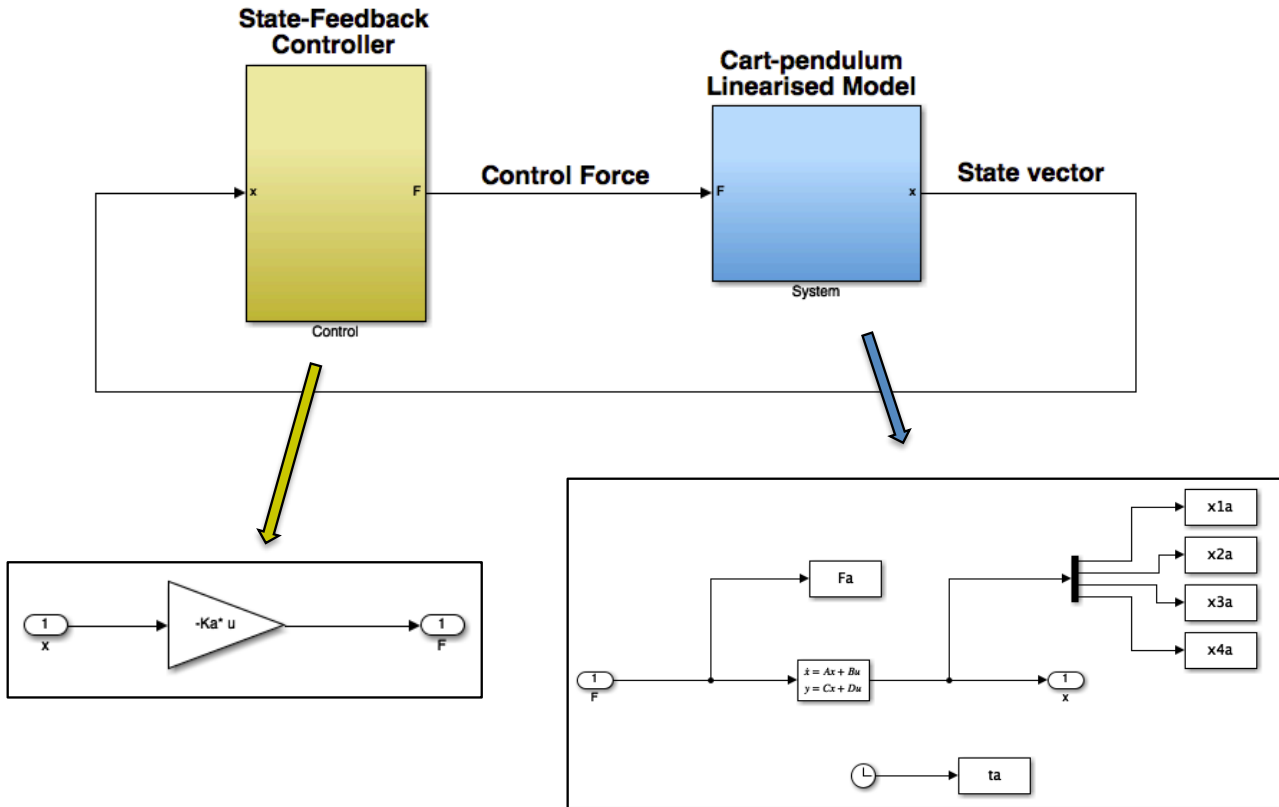

Figure 2: Linearised control system.
- Create a Simulink model of the linearised system in closed loop with the state-feedback controller. Save your model as `CP_SFC_Lin_a_yourstudentnumber.slx`. An example of the Simulink model is shown in Figure 2.